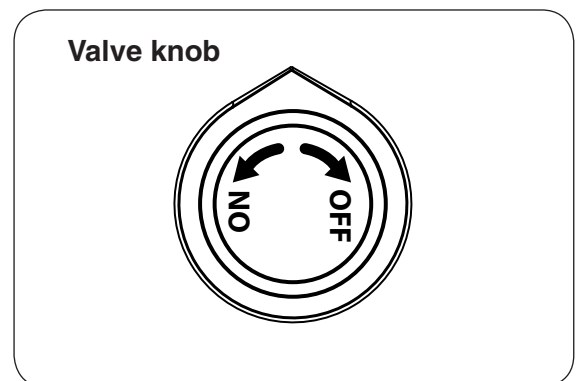

Fig. 33-2
4. **While holding the igniter button in, verify that the electrode is sparking.** Then turn the gas control knob counter-clockwise to the **ON** position, depress, and hold for 15 seconds (see Fig. 33-2). Your burner should light within 5 seconds.
To extinguish your gas burner, depress the gas control knob and turn it clockwise to the **OFF** position (see Fig. 33-2). Be sure the control knob is turned fully off to avoid any gas leakage.